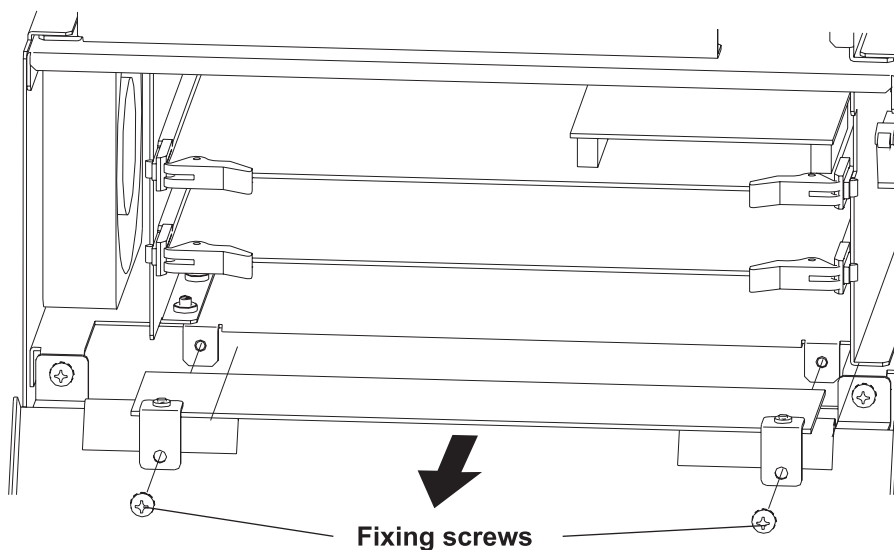

Figure 4-14 Removing the Comms Board
2. Remove the two screws at the front of the board connecting it to the security cage (see *Figure 4-14 Removing the Comms Board*).
1. Align both sides of the board with the guide rails (see *Figure 4-14 Removing the Comms Board*) in the security cage.